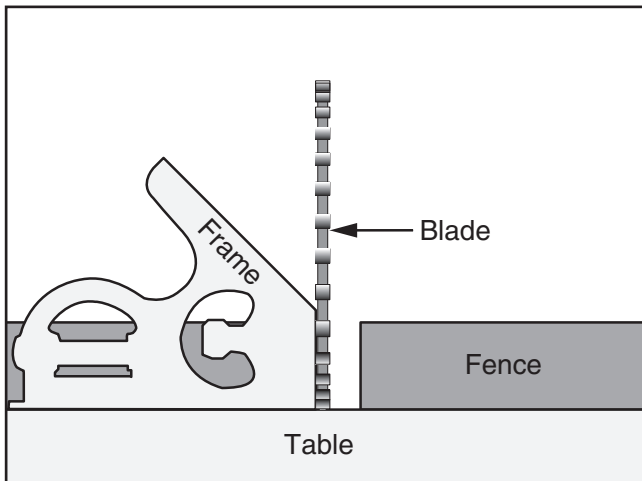

Figure 82. Framing square positioning for bevel.
4. Lay a framing square flat on miter table pressed against flat part of blade (not teeth) (see **Figure 82**).